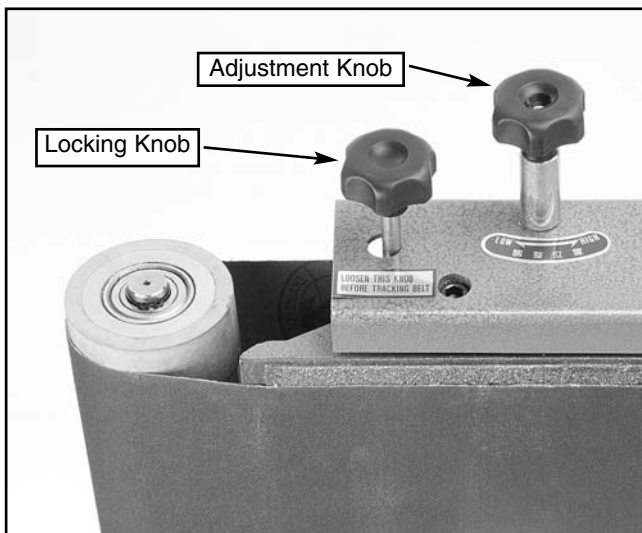

Figure 18. Belt tracking adjustment knobs.
1. Carefully move the belt left to right by hand and adjust the tracking knob as necessary to achieve proper tracking. **Figure 18.**